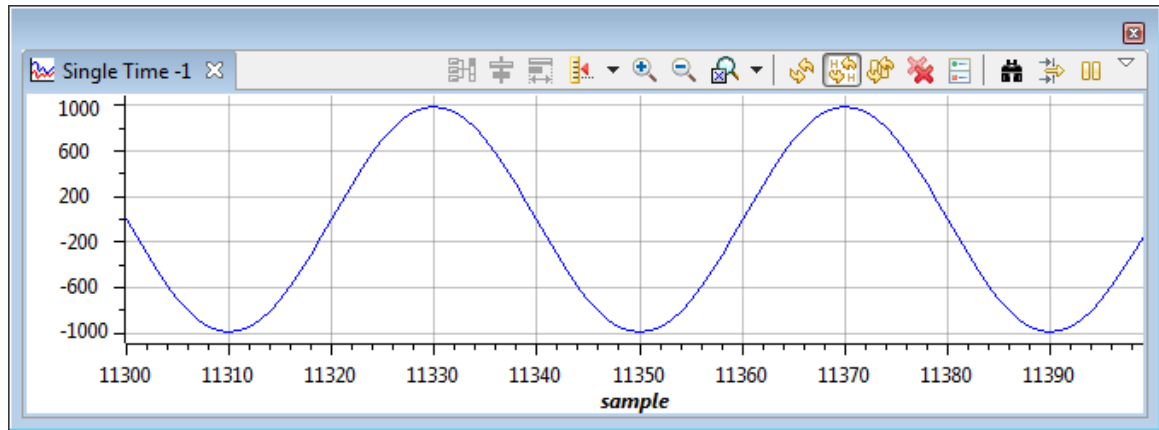

Figure 25: Effect of increasing the gain
- Hit return to save the change. The **Value** (1) should immediately appear.
- Choose **Target**→**Run**. Notice that the amplitude of the signal in the output graph changes to reflect the increased gain (figure 25). Note you can also change the watch value whilst the program is running to see the graphs updated immediately.